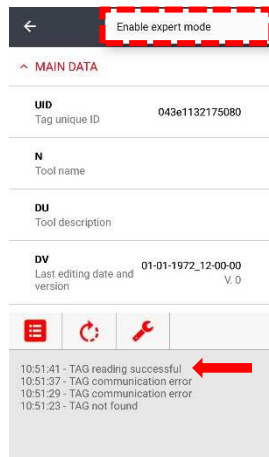

Figure 5
- Place RBQC on the back of the smartphone (where NFC reader is placed) and move RBQC slowly until will appears 'TAG reading successful' (Figure 5). Then 'MAIN DATA' can be analyzed. In the upper right part of the screen there is an icon the three points  and by clicking on it the 'Enable expert mode' text will appear. By checking this option, the full list of data and parameters becomes visible and editable. Please note that the 'Enable expert mode' option is not accessible without a correct log in and in this case the reading of the 'MAIN DATA' section in the only possible operation.